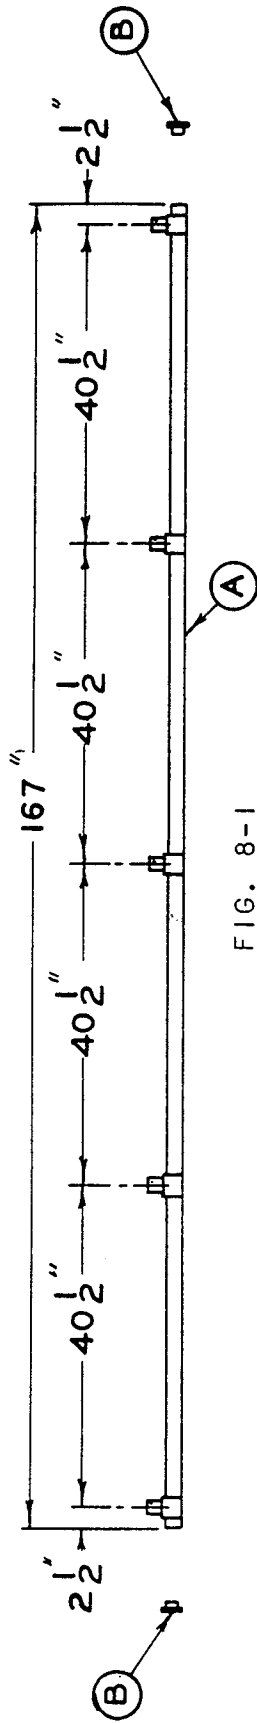

FIG. 8-1
8.1.1 Scope.- Figures 8-1 through 8-14 provide dimensional sketches of items 1 through 14 along with an individual parts list for each item. These standard structural parts (Item 1 through 14) are also listed in Table 1-1.
8.1.2 Arrangement.- The parts lists included with Figures 8-1 through 8-14 contain a list of parts that are included with each item. The Ref. Des. (Reference Designation) refers to a letter identifying the part on the adjacent sketch unless it is a pc. of hardware, in which case it may not be identified on the sketch. The Qu'ty (Quantity) column lists the number of each part required for that particular item. The Description and Mat'l (Material) columns provide the general terminology for each part and the substance which makes up the majority of the part. The Jaquith Pt. No. column lists the identifying number to be used when ordering parts through Jaquith Industries Inc. These Jaquith Part Nos. are given only to parts which, it has been determined, would commonly be ordered as replacements and would not be readily available through local sources. Table 8-1 lists these commonly ordered parts.